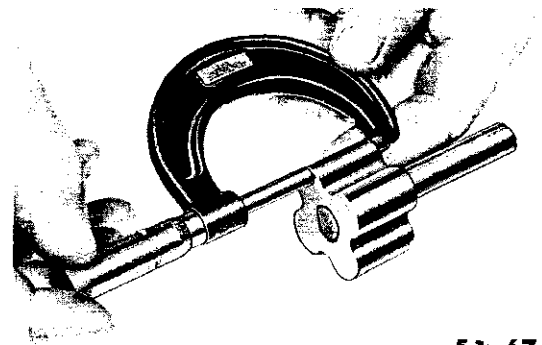

Fig. 5—Measuring the Inner Rotor Thickness
(4) If the inner rotor length measures less than .942 inch (Fig. 5), a new inner rotor should be installed.